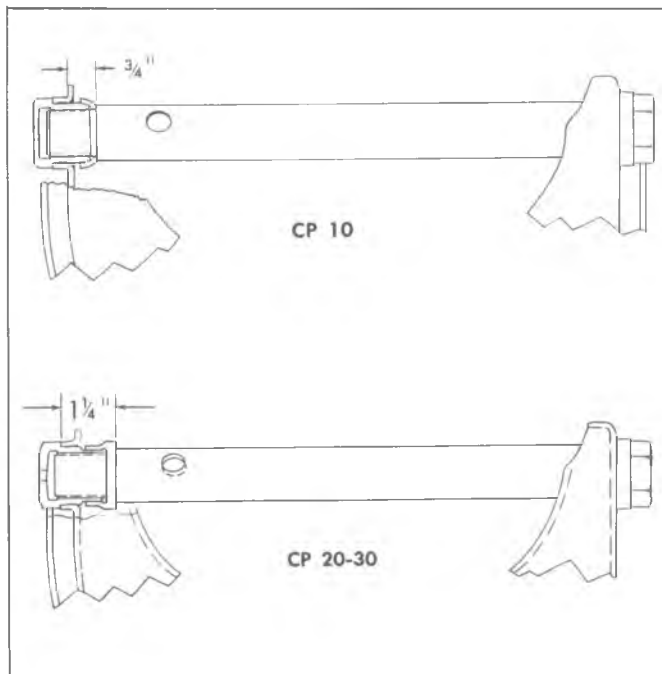

Fig. 16—Positioning Lower Control Arm Shaft
3. Start new bushings on shaft and into control arm. Adjust shaft until it is centered in control arm, then turn bushings in and torque. Check shaft for free rotating. Figure 16 shows correct final positioning of shaft.